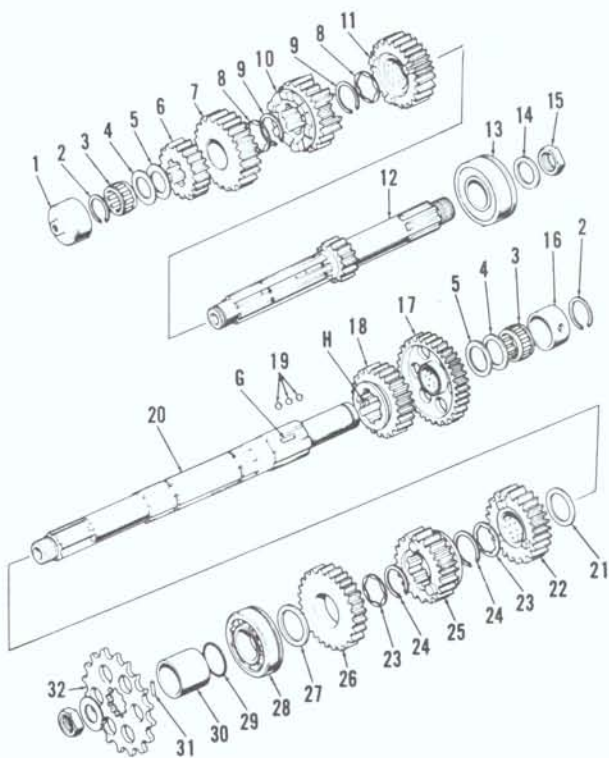

Fig. K13-23—Exploded view of transmission used in Kawasaki Z1. Second output shaft gear (26) and fifth input shaft gear (7) have renewable bushings.
A neutral finder mechanism is built into transmission output shaft. Three steel balls (19—Fig. K13-23) ride in holes (H) of fourth gear (18). When transmission is at rest, one or two of the steel balls will fall into grooves (G) in output shaft (20) and prevent gear movement except to neutral or first gear position. When transmission is turning, centrifugal force holds steel balls into holes (H) where they cannot affect gear movement. To remove fourth gear (18) from output shaft, insert a magnetized pin punch through a hole in shift fork groove of gear. Manipulate gear off shaft while using the magnet to hold one of the steel balls out of engagement. Reassemble in same manner. Make sure that gear splines with holes are aligned with grooves in shaft. Do not use grease to hold balls in position during assembly.